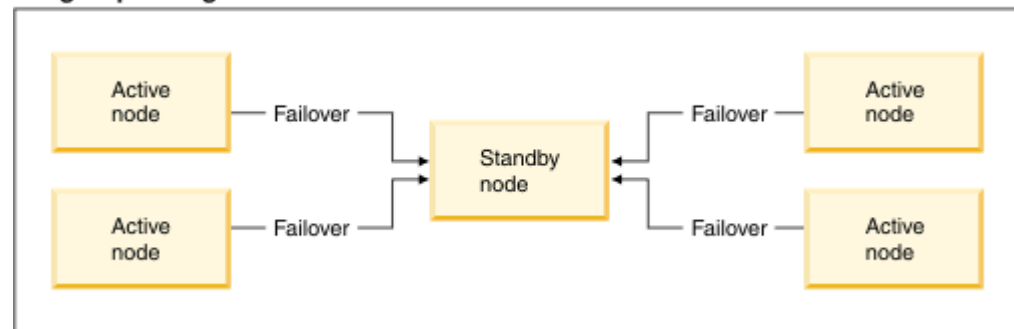

Figure 3. High availability configuration in an IBM Smart Analytics System 7700 R1.1
When the high availability (HA) configuration shown in Figure 3 is implemented, nodes are arranged into HA groups. Each group consists of up to four active nodes for Power Systems and five active nodes for System X environments. Each group also consists of administration or data nodes and one failover module which contains the standby node. Each server must be identical to the other servers in the HA group. For example, a single HA group cannot include both Power 550 and Power 740 servers.